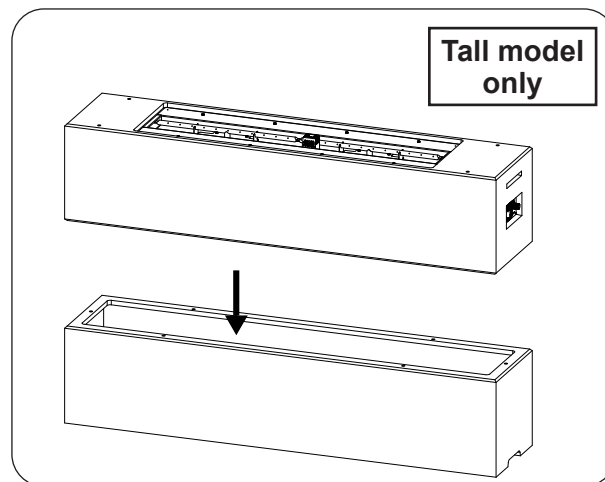

Fig. 26-2 Place top piece (if applicable)
1. Align the top piece over the base as shown in Fig. 26-2.